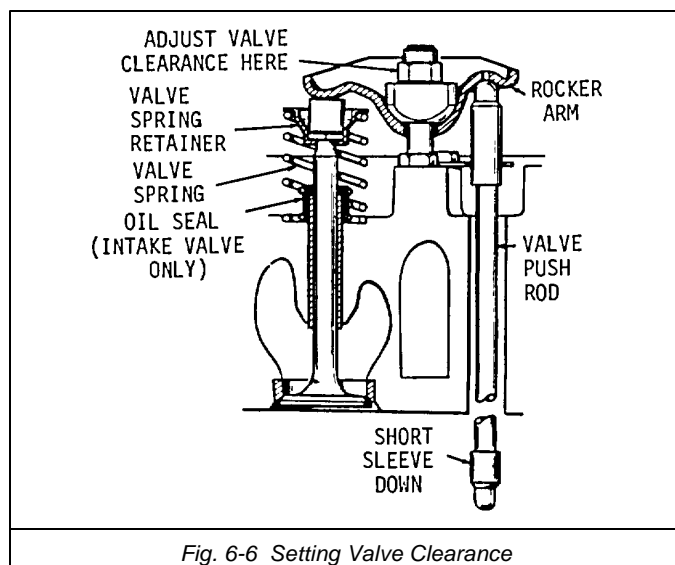

Fig. 6-6 Setting Valve Clearance
- (c) Cylinder head bolt torques should be 37 to 40 ft/lbs. To change the setting of valve clearance, adjust the locknut which secures the rocker arm to the cylinder head (Fig. 6-6). Loosen the locknut to increase clearance and tighten it to reduce clearance.